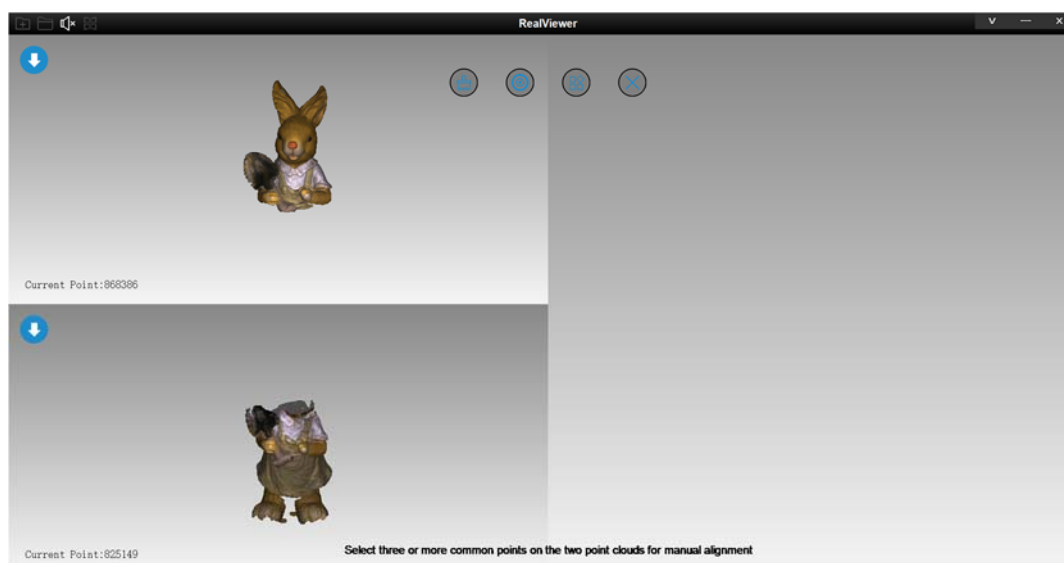

Figure7- 6 Import splicing data
(2) Select N points ($3 \leq N \leq 9$) in the common part between the two sets of data, and the two sets of data can be spliced automatically. If you click the “” button, the two sets of data can be spliced more accurately (Figure7- 7).